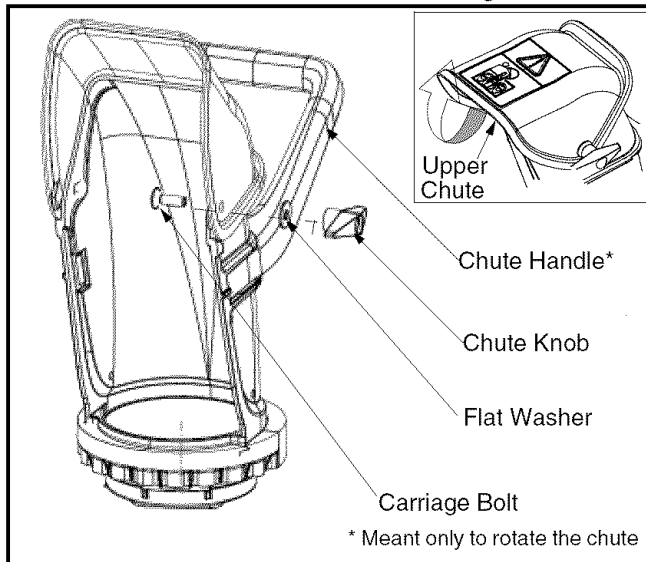

Figure 1
1. Loosen the chute knob on the upper chute and pivot the upper chute upwards as far as it will go. Follow the direction of the arrow in Figure 1.
5. Tighten the chute knob making sure the rectangular head of the carriage bolt is firmly seated in the slot on the chute. Refer to Figure 1.